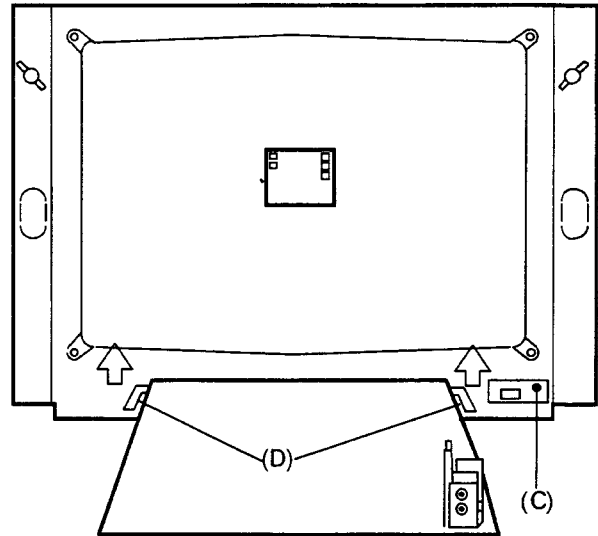

Fig.6 Abb.6
2. Remove the 1 screw (C) as shown in Fig.6.
3. Hold and lift the tabs (D) of chassis as shown in Fig.6, gently pull the chassis towards you.